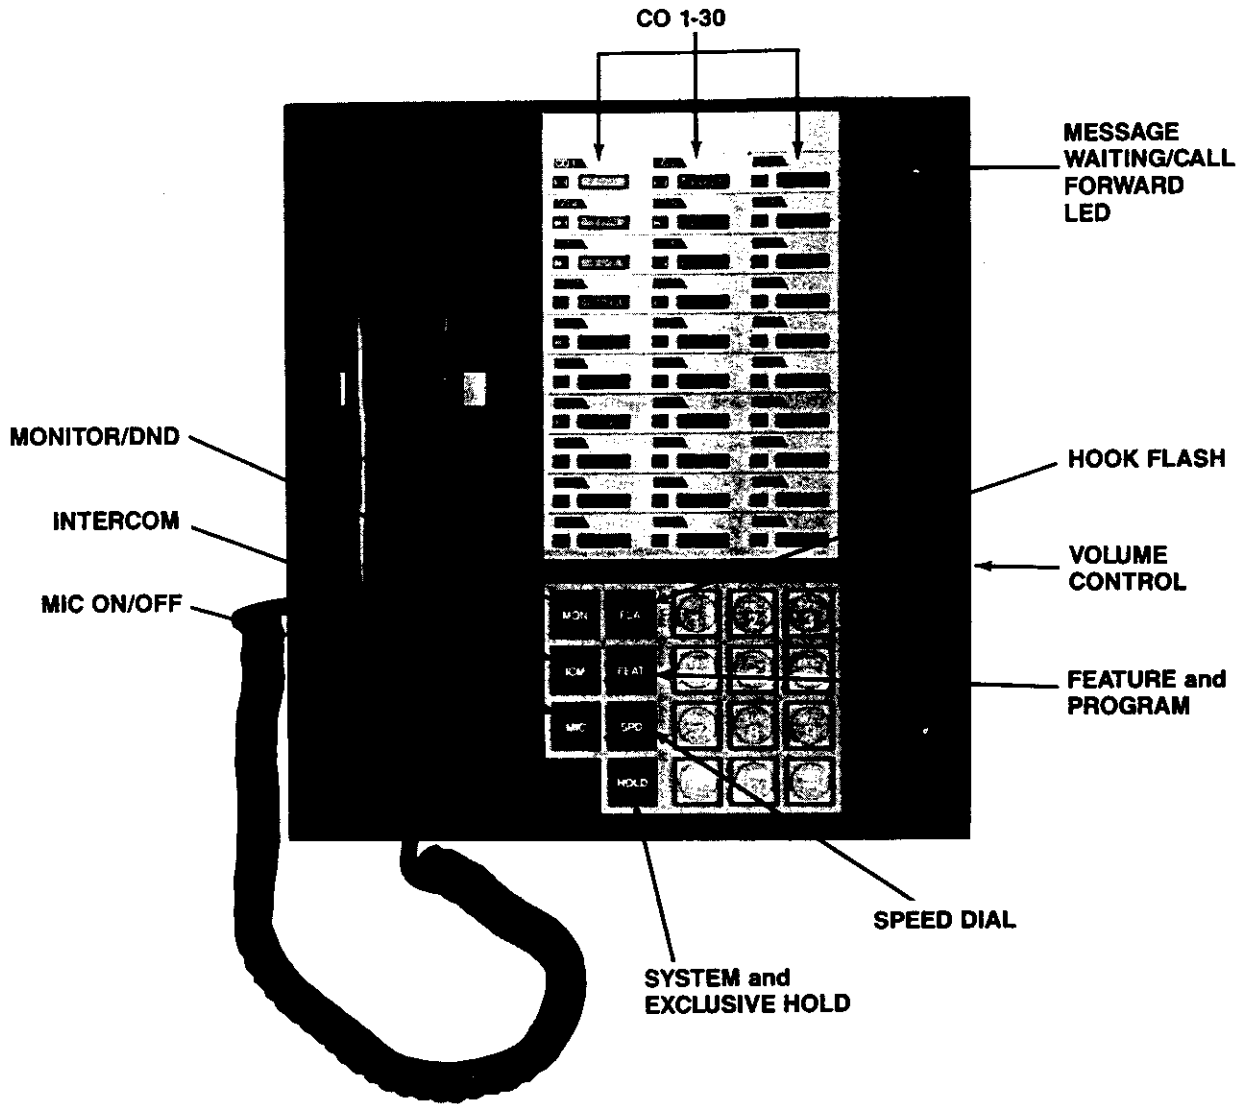

Figure 3-5. 30-Button Electronic Key Telephone.
- Figure 3-5 -- 30-Button Electronic Key Telephone